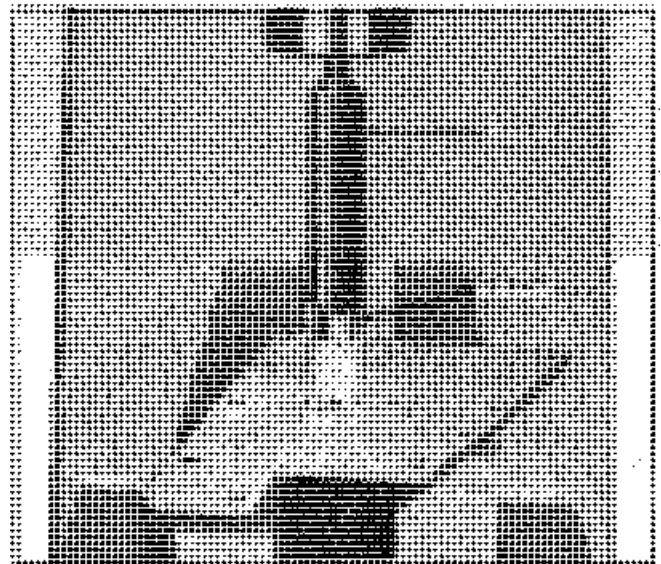

FIG. 26 Installing Bearings in Governor Cover using Tool J 21068
- b. Place the correct end of the bearing installer J 21068 in the bearing as shown in Fig. 26. Then press the bearing into the bore until the stop on the installer contacts the cover boss.
- b. Place the correct end of the bearing installer J 21068 in the bearing as shown in Fig. 26. Then press the bearing into the bore until the stop on the